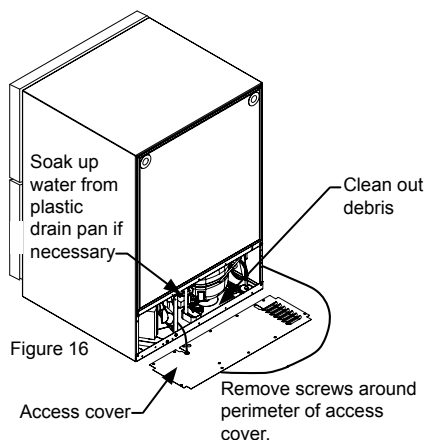

Figure 16
10. Remove the rear access cover, (see Figure 16), and use a brush and vacuum to clean dirt and debris from the machine compartment.